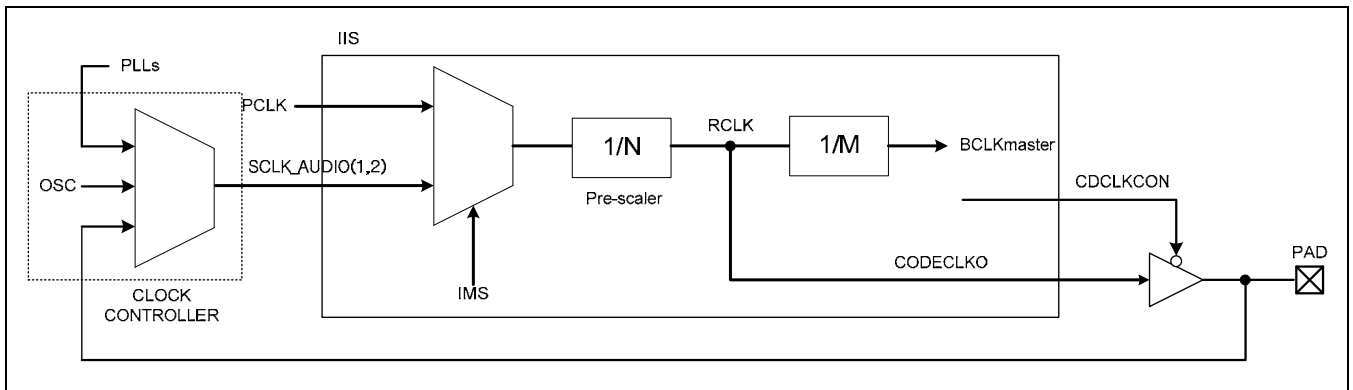

Figure 10.3-2 I2S Clock Control Block Diagram
Figure 10.3-2 shows the route of the root clock with internal master or external master mode setting in I2S clock control block and system controller. Note that RCLK indicates root clock and this clock is supplied to external I2S codec chip at internal master mode. To control CLOCK CONTROLLER, Refer to AUDIO1_SEL and AUDIO2_SEL of 9.2.4 Select clock source 3 Register (Audio & Others clock source register) in 2.3 CLOCK STRATEGY.
2. Select clock source. The S5PC100 has three clock sources namely PCLK, EPLL and external codec. For more details refer to Figure 10.3-2.